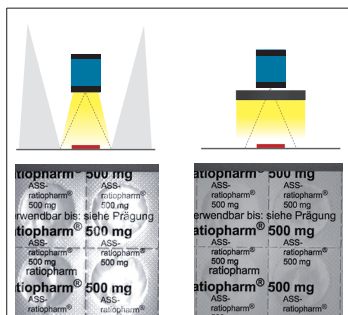

Figure 2: Ring lighting
- **ring lighting** gives a consistent and uniform image of a highly reflective or irregularly-shaped part, for example a sheet of aluminium foil (Figure 2).